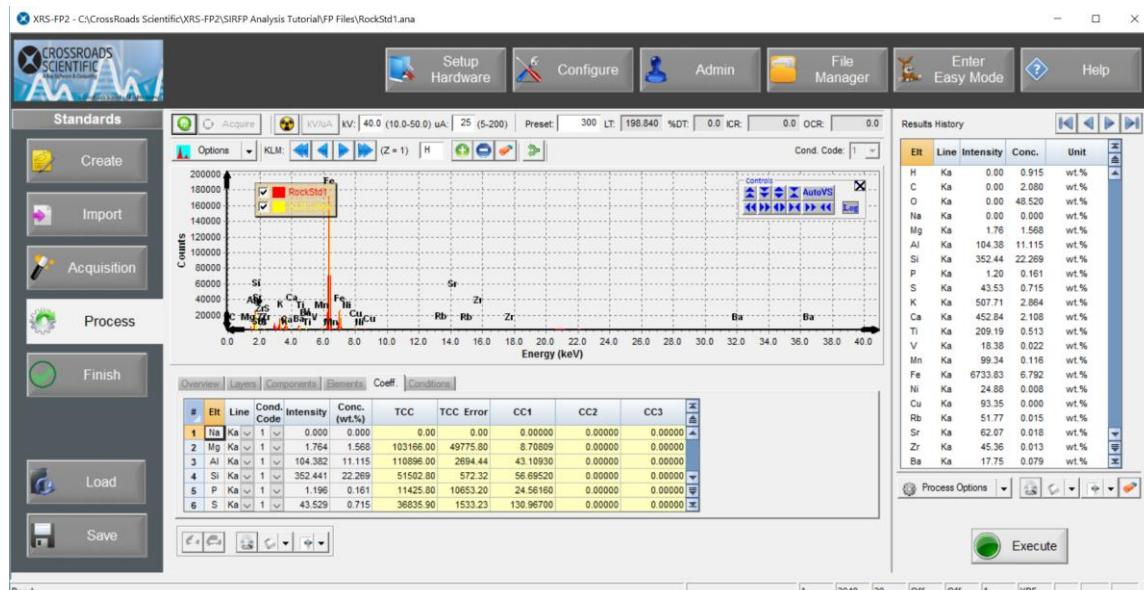

Figure 12. Standards Workflow - Process. The standard spectrum (“RockStd1.mca”) has been processed and TCC values obtained.
14. Now select the **Process** button. Then click on the **Execute** button in the R-hand panel. This will process the spectrum and generate FP Theoretical Calibration Coefficients (TCCs) in one step. Notice that the TCC values are displayed under the “Coeff.” Tab. See Figure 12 below.